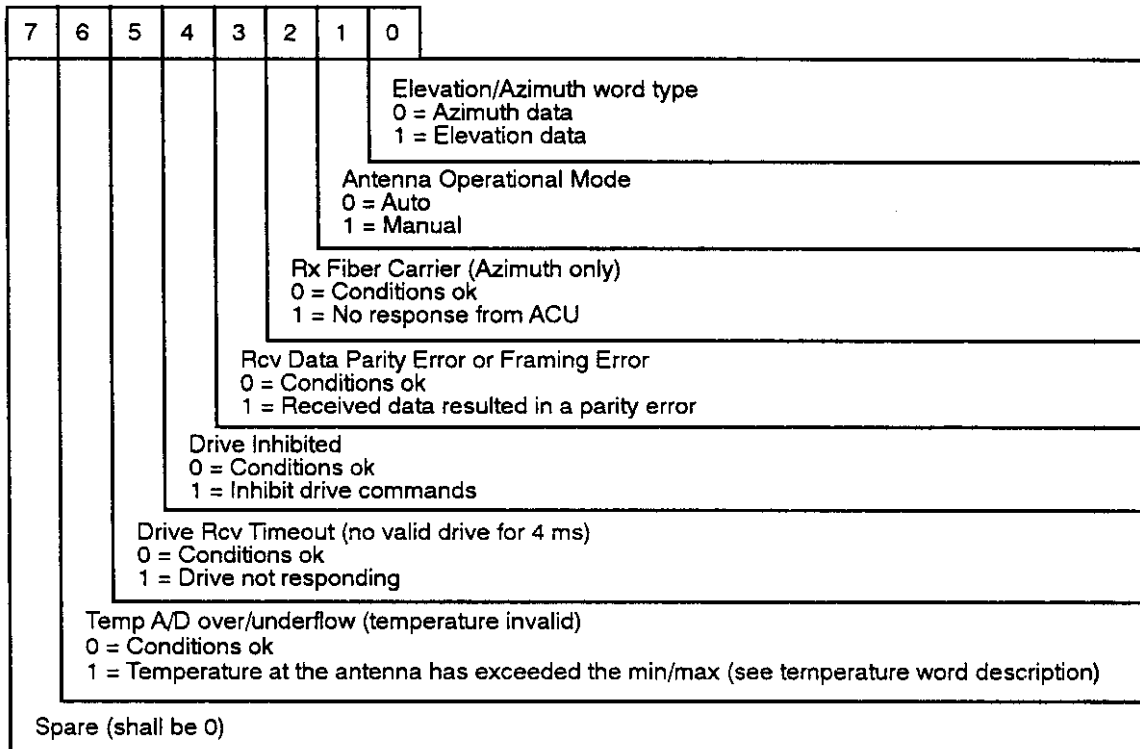

Figure 23. Elevation & Azimuth Status Words.
- Word 2: Status see Figure 23
- Word 9: Status see Figure 23